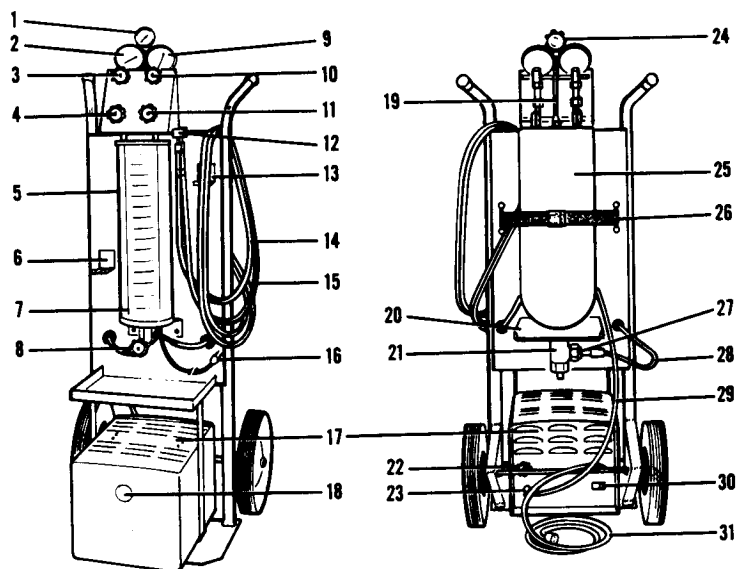

Figure 14-7. Charging Stand
***Applies to Kent Moore J23500 or similar charging station. Refer to Figure 14-7.***
***The following instructions apply to Kent Moore, J23500 charging stand. Refer to Figure 14-7.***